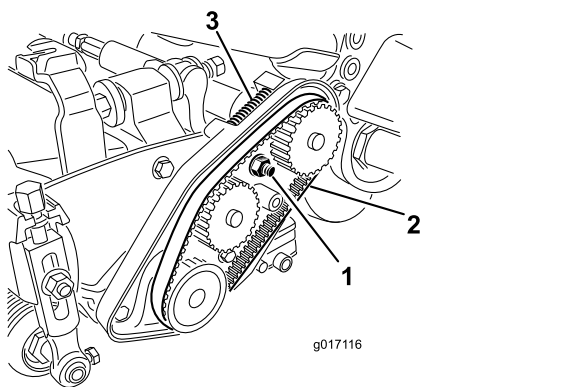

Figure 46
- A. Loosen the bearing housing mounting nut (Figure 46).
- C. Clean any debris from inside the belt compartment and from around the compression spring (Figure 46).